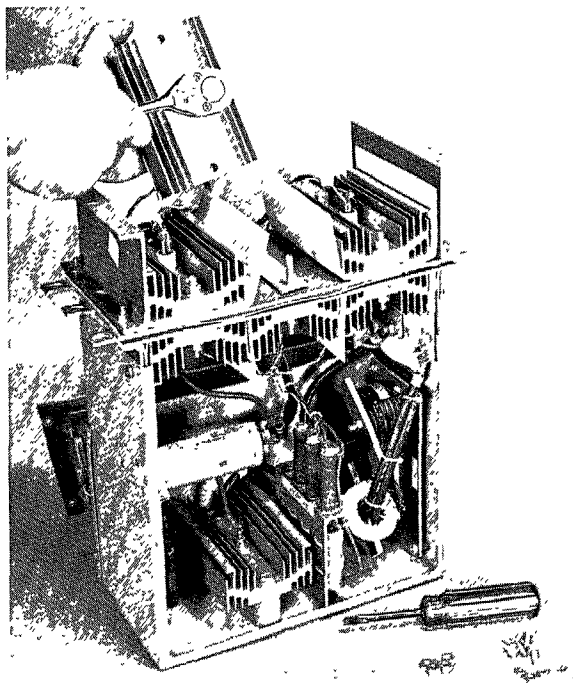

FIGURE 19
6. Remove the two (2) nuts that secure the defective SCR heatsink to the DC bus (P1 or N1).
8. Remove the stud mounted SCR from its heatsink. It is secured with a nut and lock washer. See Fig. 19.